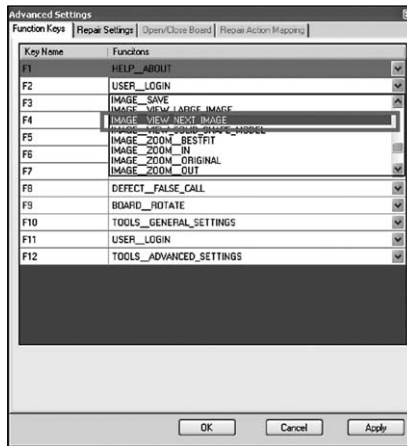

Figure 4. Select "IMAGE_VIEW_NEXT_IMAGE"
4. To assign to **View Next Image** (view next slice) function to F2 key, scroll the list of functions until you find the function named **IMAGE_VIEW_NEXT_IMAGE** see Figure 4, select the function and click the "Apply" button and click OK, now the view next slice function can be used by pressing the F2 key on the keyboard.